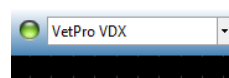

Figure 15: Successful VetPro® VDX sensor selection
- Once VetPro VDX is selected you will see a green LED (Figure 15). This verifies the sensor is now connected to the computer.